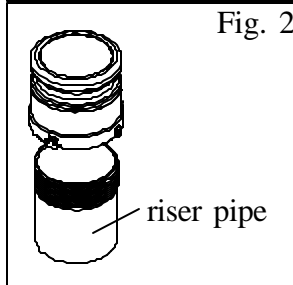

Fig. 2
STEP 2: Screw clockwise the B-70 on the riser pipe by hand until tight (see Fig. 2).